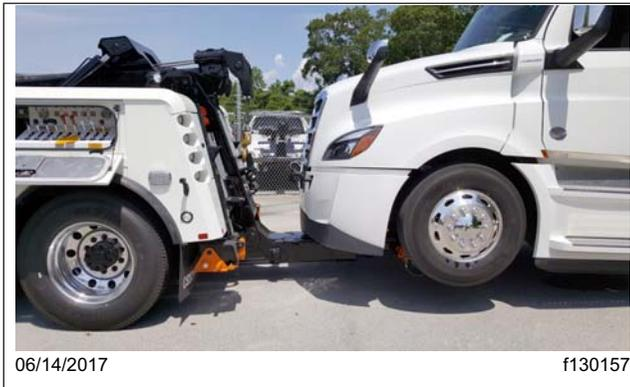

Fig. 26.14, Final Towing Position
15. Use the stinger to pull the truck close to the back of the tow truck for final towing position. See Fig. 26.14.